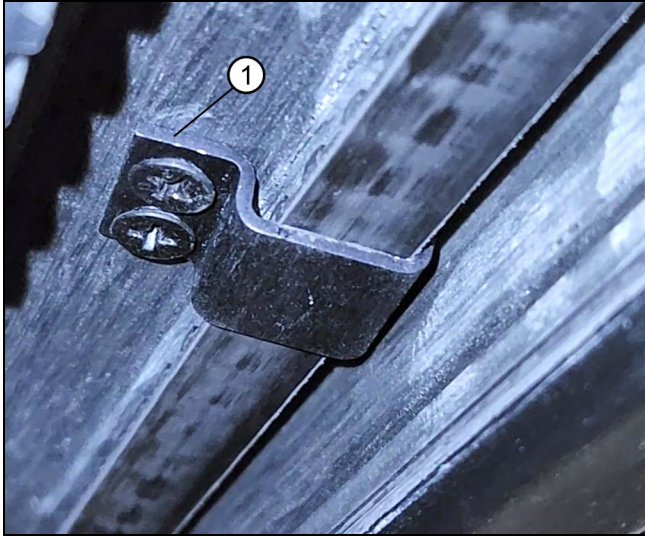

Figure 45
1. On large units, the belt clips can be installed to eliminate belt sag. Use the belt clip to hold the belt **(opposite of the turnbuckle or bi-parting bracket)** with teeth up against the head track. Fasten the belt clip in the head track with the screws provided. Pre-drilling may be necessary. See Figure 45.